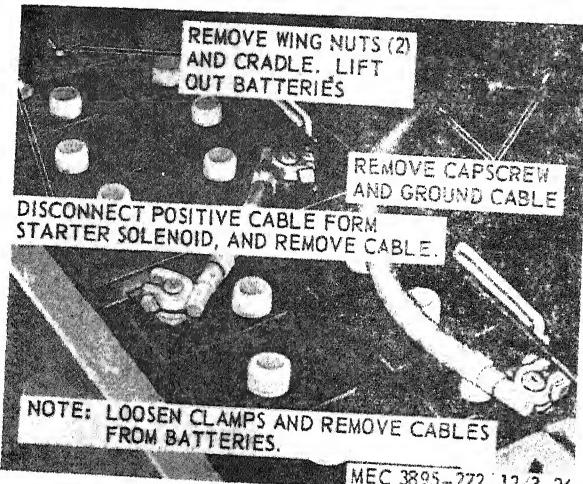

Figure 3-26. Batteries and battery cables, removal and installation.
- Removal.* Remove the batteries and battery cables as instructed on figure 3-26.
c. *Installation.* Install the batteries and cables in reverse of the instructions on figure 3-26.
- Remove the battery frame assembly as instructed on figure 3-26.
- Install the battery frame in reverse of the instructions on figure 3-26.